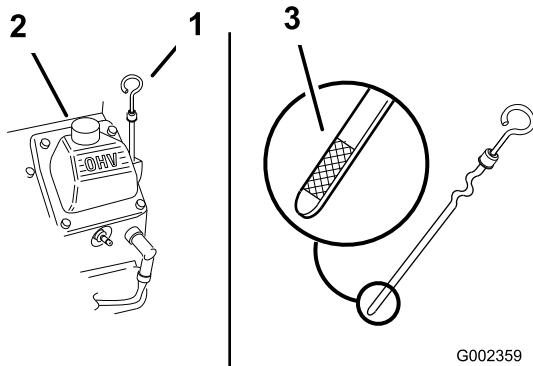

Figure 20
3. Clean around the oil dipstick (Figure 20) so that dirt cannot fall into the filler hole and damage the engine.
4. Unscrew the oil dipstick and wipe the end clean (Figure 20).
5. Slide the oil dipstick fully into the filler tube, but do not thread onto tube (Figure 20).
6. Slowly pour approximately 80% of the specified oil into the filler tube (Figure 20).